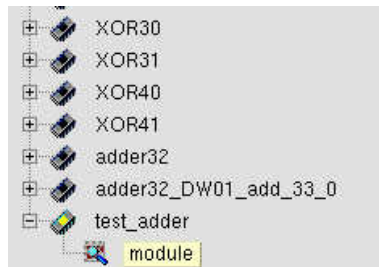

Figure 5-6 Select top module under worklib directory.
1. Click on the top module - test\_adder as figure 5-6 for elaboration.